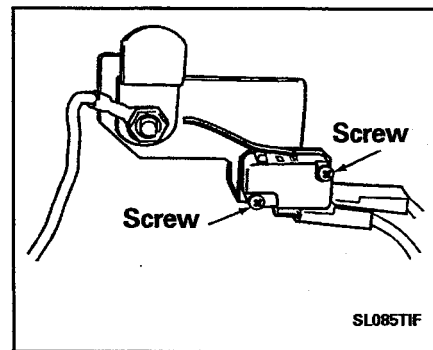

Figure 2-3
3. Remove the two screws securing the switch (*Figure 2-3*).